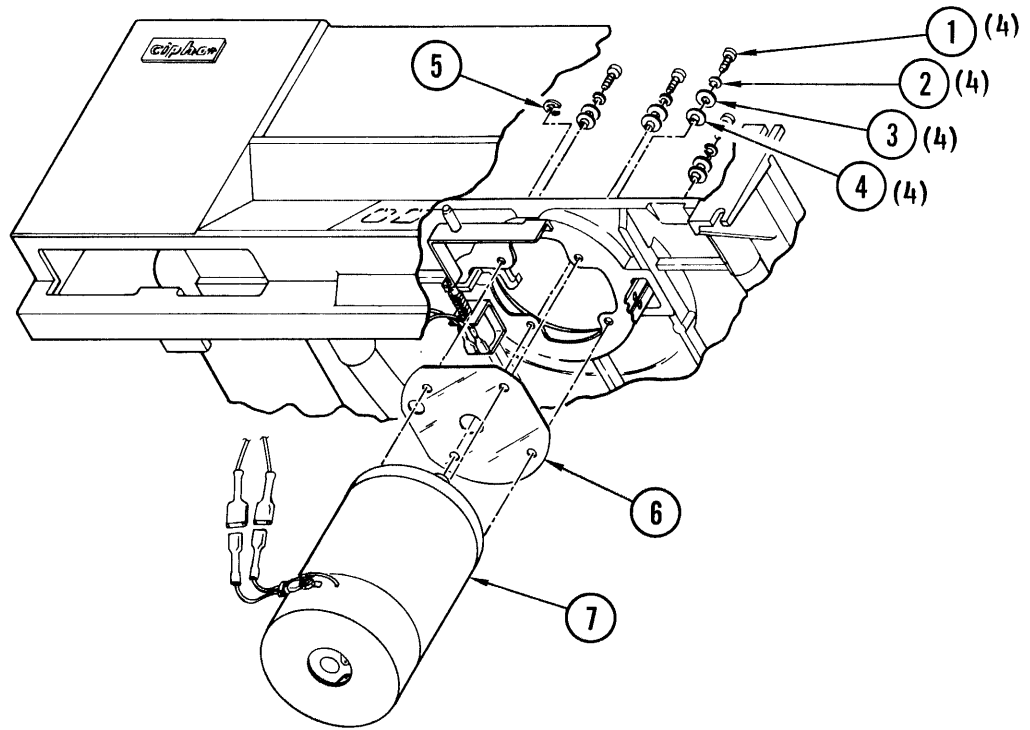

Figure 4-28. Supply Motor Assembly
- 4-44. **Removal and Replacement (Figure 4-28).** Place transport in service access position (paragraph 4-3) and remove and replace the supply motor assembly as follows:
- d. Remove bell crank retaining ring (5, Figure 4-28).
- e. Remove screw (1) lockwasher (2), flatwasher (3), shoulderwasher (4), and insulator (6), holding motor (7) as last screw is being removed.
- f. Lower motor (7) from top plate, simultaneously slipping bellcrank off post on top of motor.